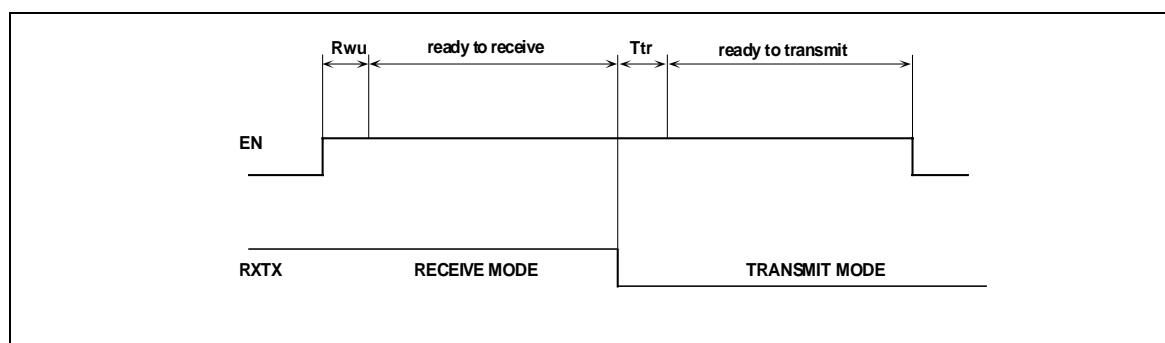

Figure 4: timing diagram for RXTX and EN control pins
transmit or receive mode with pin 1 (EN) and 15 (RXTX) as explained in table 11 and figure 4.